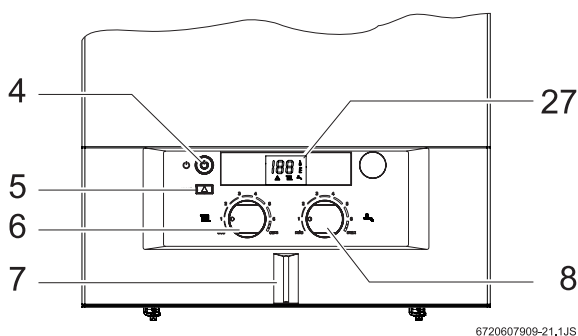

Fig. 31
**NOTE: upon installation or after gas line work has been done, air in the gas line may cause a lockout error. Reset the unit (Fig. 31, pos. 5). The heater will reattempt ignition.**
LED (fig. 31) goes orange.